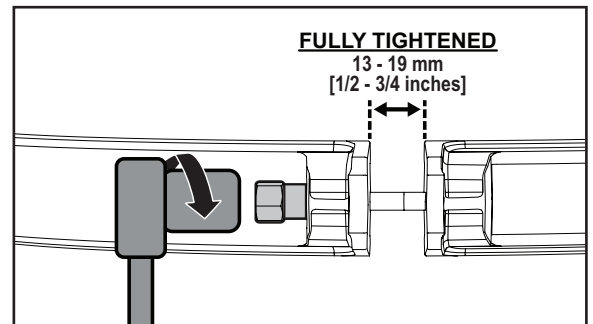

FIGURE 7
6. Use a *3/4-inch Socket and Wrench* (3) to tighten the *Clamp Nut* (4) between 22 and 24 Nm [16 and 18 ft-lbs]. Refer to **FIGURE 7**.
7. Verify the gap between the ends of the clamp is between 13 and 19 mm [1/2-inch and 3/4-inch]. Refer to **FIGURE 7**.